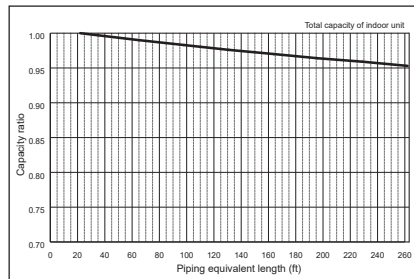

Figure 6 Correction of refrigerant piping length
- Piping Length Correction (230 ft) 0.96 (Refer to Figure 6)